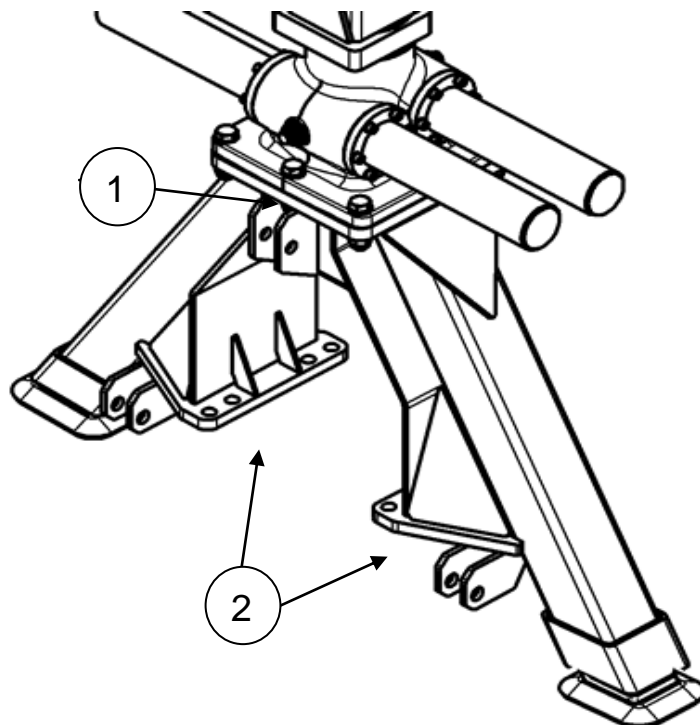

Figure 5. Connection junctions on Palms 640
Mounting of forest crane should be performed at the dealer service center or by person authorized by the manufacturer or dealer. Mounting/detaching the crane can also be made by end user, if professional equipment is used, all safety regulations are followed and at least one qualified mechanic is present during all the mounting/detaching process. Strength class for mounting bolts of slewing device-support legs (pos. 1, fig.5) and support legs-trailer (pos. 2, fig. 5) has to be 12.9 (DIN912). Use self-locking nuts M24. The tightening torque for the mounting bolts of the crane (pos. 1, fig. 5) and supporting legs (pos. 2, fig. 5) is 1220 Nm.